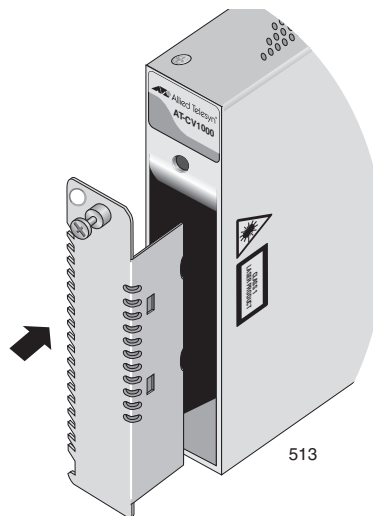

Figure 21. Inserting an AT-CV5PNL1 Blank Slot Cover
5. Slide the blank slot cover into the slot, as shown in Figure 21, until the slot cover is flush with the front of the chassis.